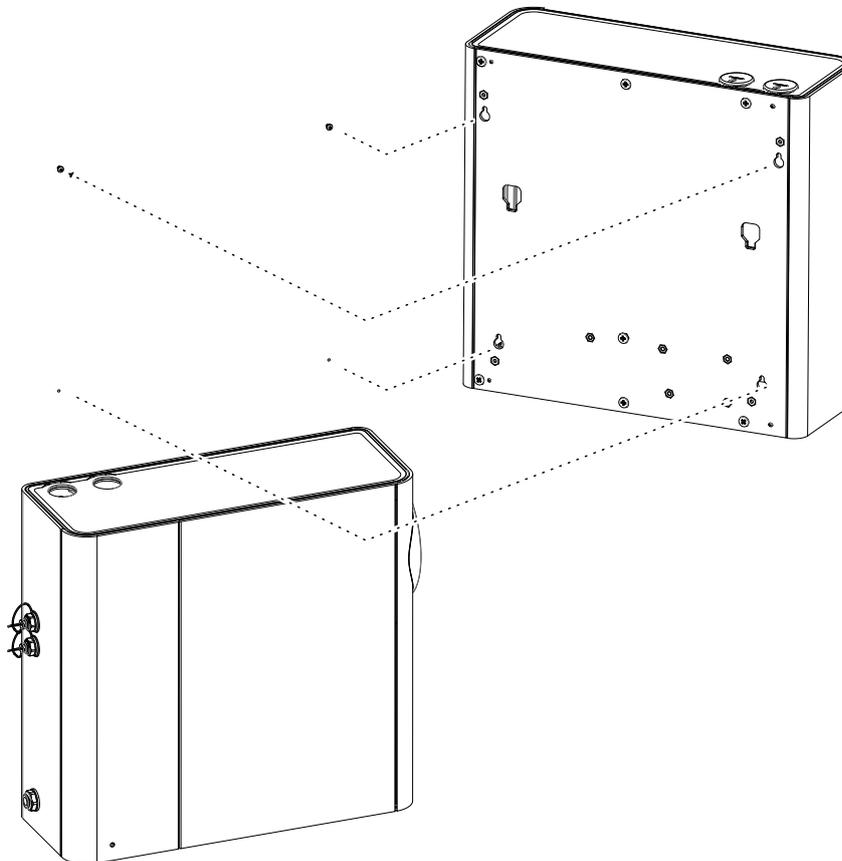

Figure A-33: Reposition the Local Relay StaX above the detector
5. Reposition the Local Relay StaX above the detector, inserting the two mounting screws into their respective keyholes (Figure A-33).